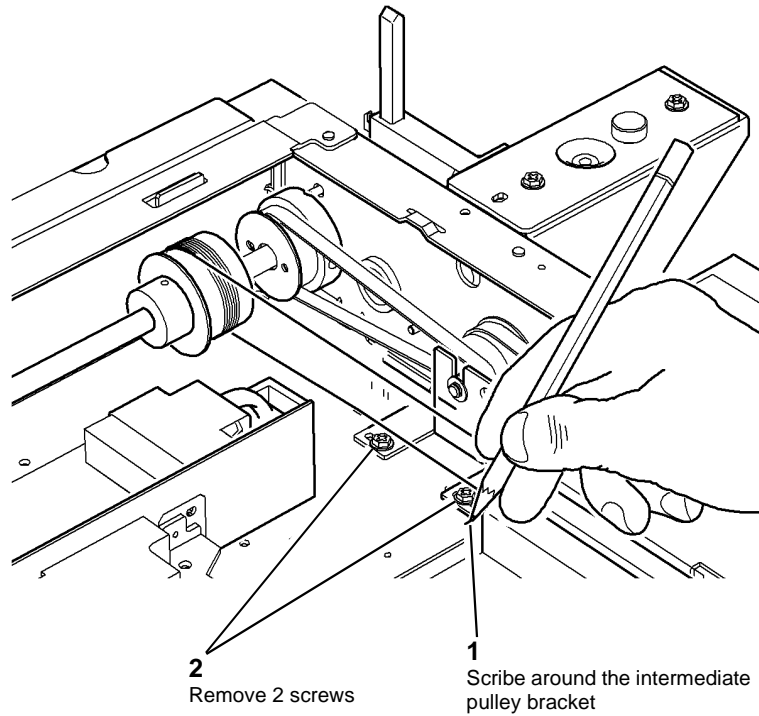

Figure 1 Preparation
5. Prepare to remove the belts, Figure 1.